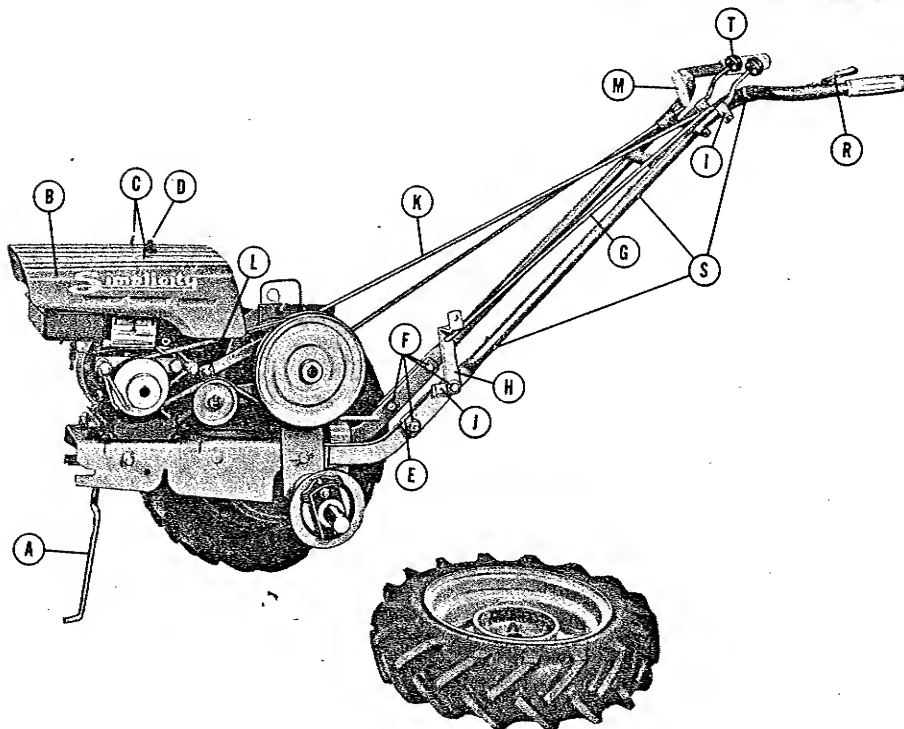
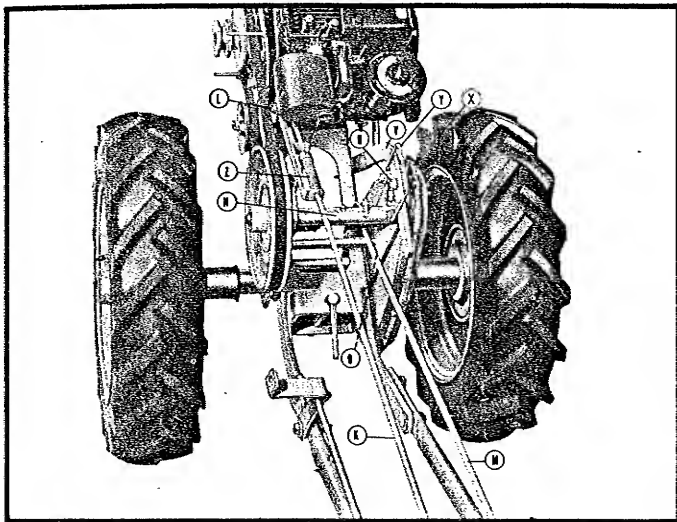
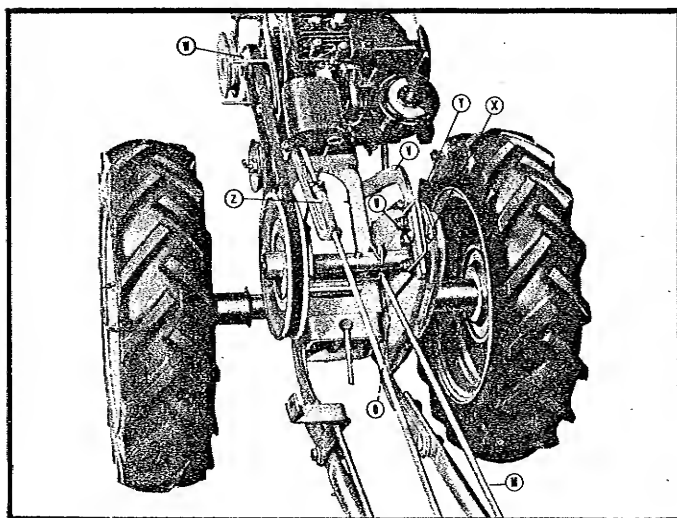

Fig. 1
Fig. 2
Fig. 3
3. Lower clutch lever (H) should rest on lever stop (J) when upper clutch lever (I) is forward.
4. Attach clutch rod (K) to idler arm as shown at (L). Figure 2 illustrates this assembly in detail.
5. Attach reverse rod (M) to bearing housing (N) at hole indicated by (O).
6. Please refer to Figure 1. Attach throttle control lever (R) to the left hand handle with the throttle cable strung under the handle.
7. Clamp throttle cable to the handle with three clamps (S) as shown. NOTE: Screws and clamps for cable and throttle lever are packed in mailing bag tied to cable.
The Model LB tractor has two forward speeds. Pulley position for these speeds are illustrated in Figures 2 and 3. Figure 2 illustrates the High Speed, recommended for all attachments except tiller. Notice in Figure 2 that the lock bar pin (U) is located in front hole in the lock bar (V). When changing to low speed, please refer to Figure 3. Loosen engine pulley set screw (W), remove engine pulley, turn around and replace with large pulley to outside as shown in Figure 3. (You will find this simple to do if drive belt is
Remove spring clip (X) and lock bar pin (U) from front hole in lock bar (V). Pull transmission slightly to the rear so that pin (U) will enter rear hole as shown in Figure 3. To facilitate this adjustment, a convenient handle (Y) is provided. Replace spring clip (X) to hold pin. Replace tractor drive belt.